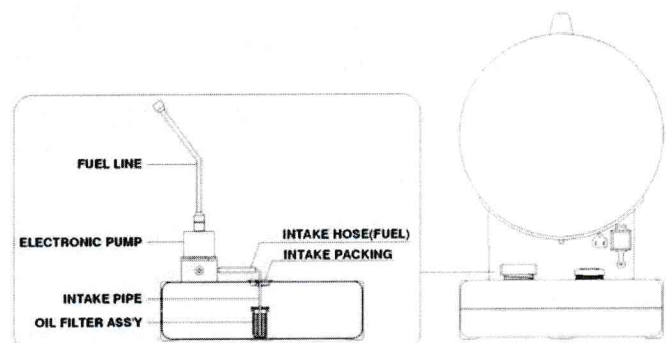

Figure 6. Filter Maintenance
**Filters** - The Fuel Filter and Oil Filter should be cleaned at least twice per heating season by rinsing it in clean 1-K kerosene. Contaminated fuel could make this necessary immediately (see Figure 6).